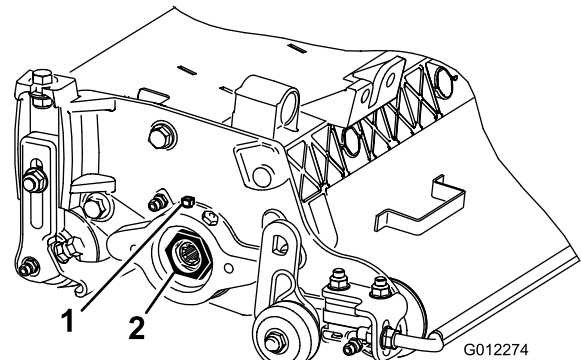

Figure 10
- A. Loosen the external set screw that secures the bearing adjusting nut to the bearing housing located on the left side of the cutting unit (Figure 10).